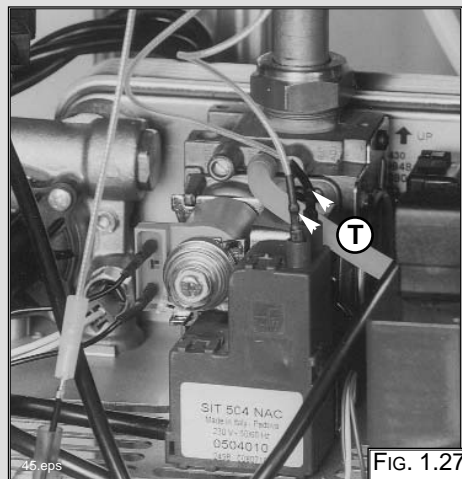

FIG. 1.27
1. Disconnect ignition leads "T" by pulling upward (FIG. 1.27);